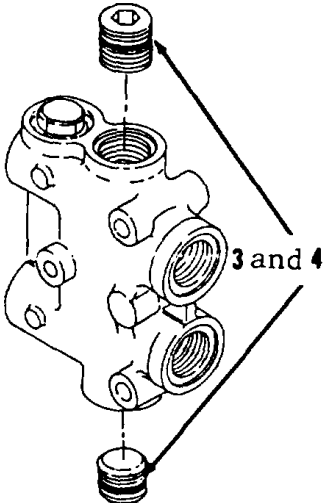

Figure 10-111.
- 4. Remove two items 3 and 4 as an assembly (Figure 10-111).